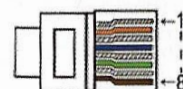

Figure 2
- Communication interface RJ45 pin definition, as shown in Figure 2.